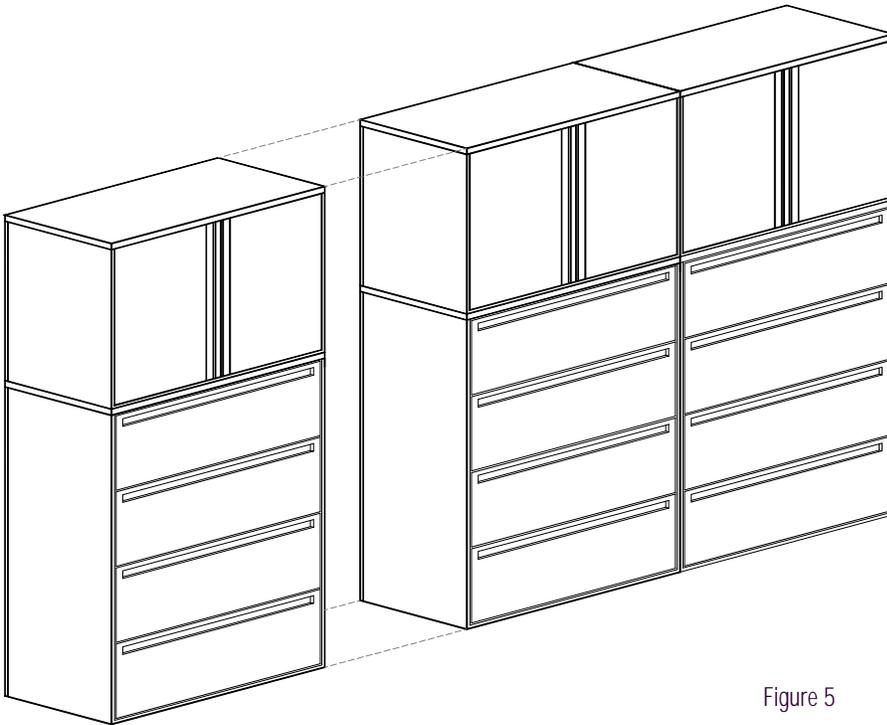

Figure 5
1. Cabinets should be ganged to adjacent units as described in previous section (Figure 5).